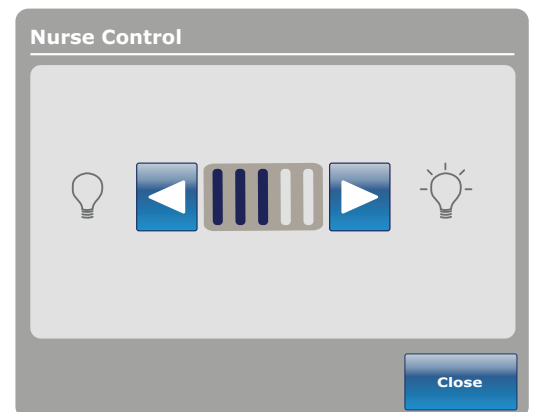

Figure 78 – Nurse control LED intensity
2. Tap the left or right arrow (Figure 78).
3. To save the LED intensity setting, tap **Close** (Figure 78).